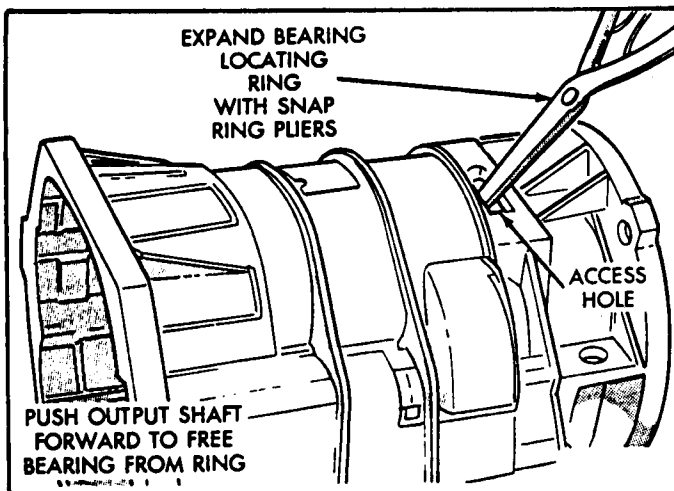

Figure 7
9. Expand output shaft bearing snap ring with snap ring pliers, and push output shaft forward to release bearing from snap ring (See Figure 7).